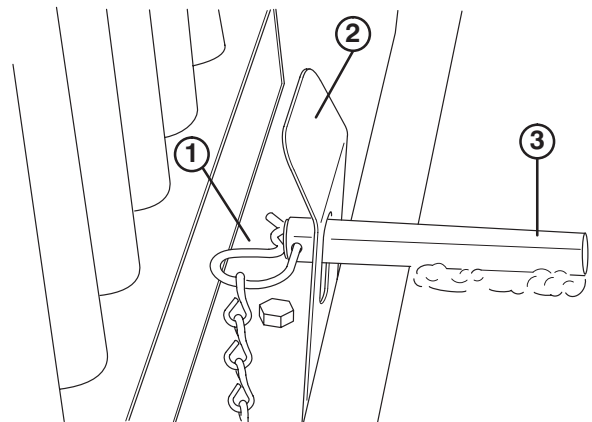

Figure 4
3. Remove hair pin cotter and pull back on locking spring flap to pivot mounting plate forward (Fig. 4).
2. Remove hair pin cotter and pull back on locking spring flap to pivot mounting plate forward (Fig. 4).